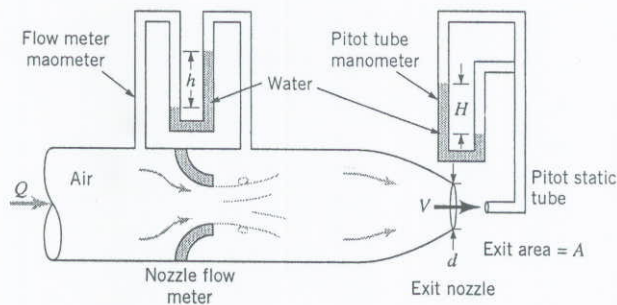

FIGURE P3.119
**Objective:** As shown in Section 3.6.3 of the text, the volumetric flowrate,  $Q$ , of a given fluid through a nozzle flow meter is proportional to the square root of the pressure drop across the meter. Thus,  $Q = Kh^{1/2}$ , where  $K$  is the meter calibration constant and  $h$  is the manometer reading that measures the pressure drop across the meter (see Fig. P3.119). The purpose of this experiment is to determine the value of  $K$  for a given nozzle flow meter.